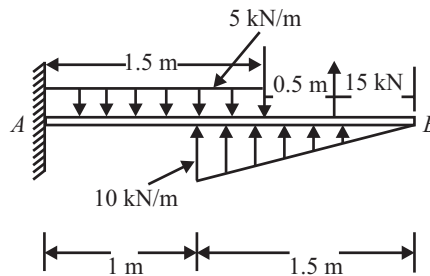

Fig. 7.57
Q. 44: What force and moment is transmitted to the supporting wall at A? (Refer Fig. 7.57)